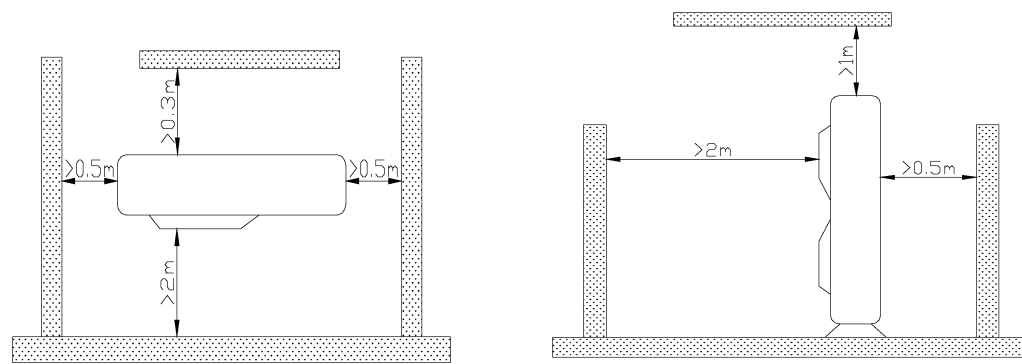

Fig.2
2. The requirement of installation space dimension for unit body as show in Fig.2